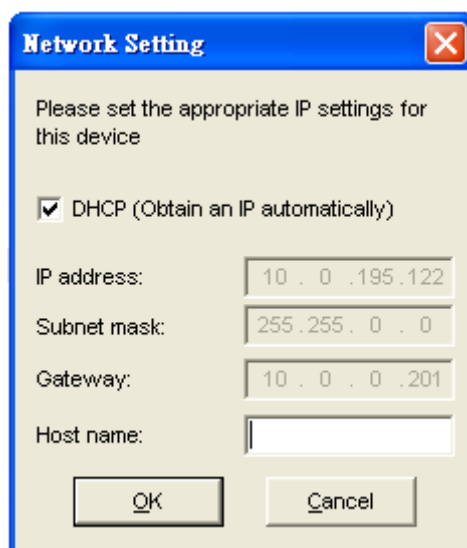

Figure 3.3 SerialManager Auto IP Dialog Window
- >Check "**Auto IP**" (Figure 3.3)